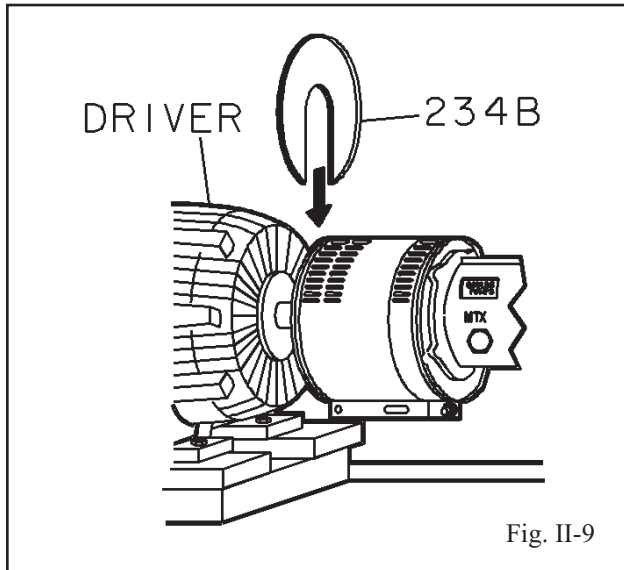

Fig. II-9
5. Place end plate (driver end) over motor shaft as shown in Fig. II-9. Locate the end plate in the annular groove at the rear of the coupling guard half (driver end) and secure with a bolt, nut, and two washers through the round hole at the rear of the guard half. Finger tighten only.
2. Remove nut, bolt, and washers from coupling guard half (driver end), and remove end plate (Fig. II-9).